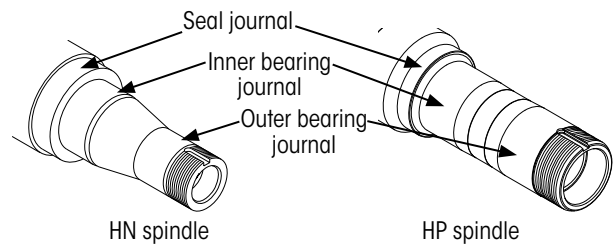

Figure 9: Spindle seal & bearing journals
2. **Inspect** machined spindle journals (Figure 9) for nicks, scratches, burrs or marks. If needed, use crocus cloth or emery cloth to repair any damaged areas.
1. Taking care not to damage the seal, **gently slide** the hub onto spindle until the seal is against the spindle seal journal (Figure 9).